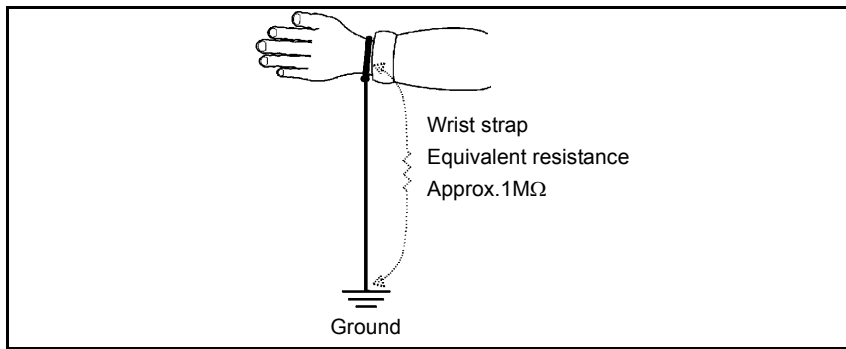

Figure 2-1 Countermeasures for Static Electricity of Human Bodies
- Human body: Use of a wrist strap (see Figure 2-1).